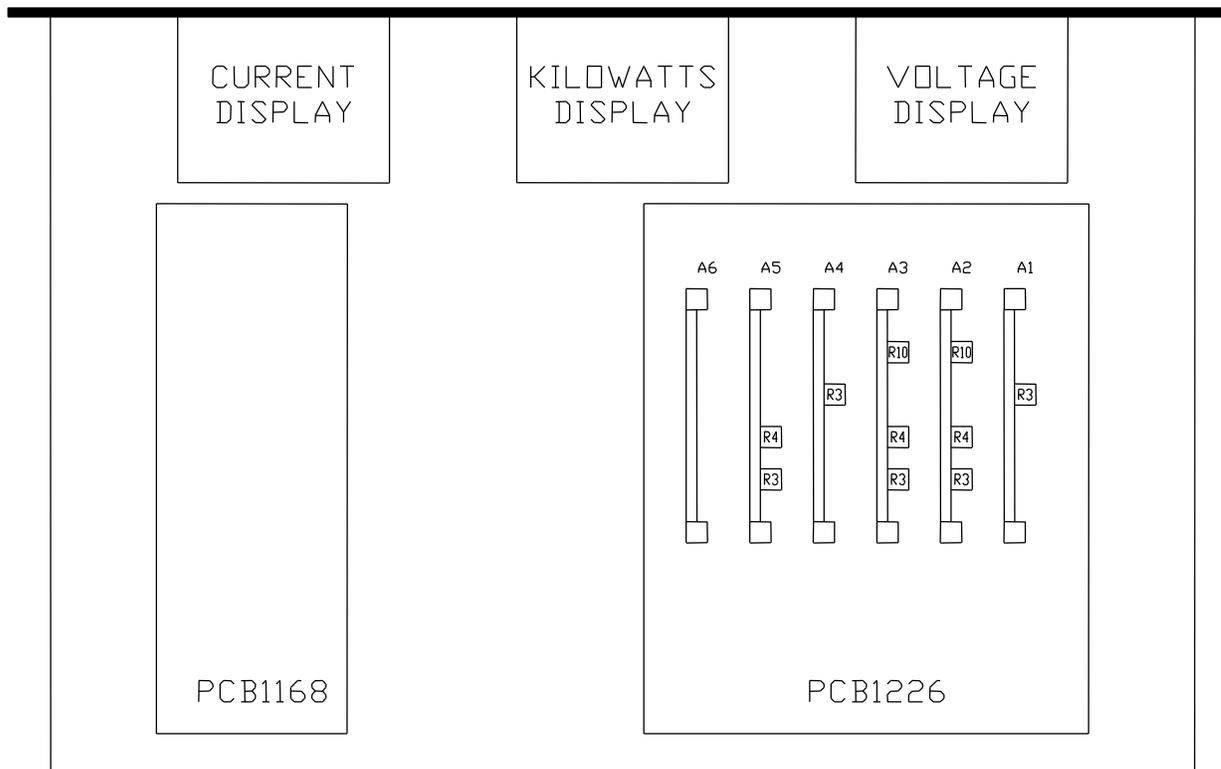

Figure 5-1. Location of Calibration Potentiometers
With the back panel removed from the Test Set, the calibration personnel will have direct access to the circuit cards located on the display panel assembly. The location of the calibration potentiometers located on the circuit card assemblies is shown in Figure 5-1. Table 5-1 lists the different functions of the calibration potentiometers.
5. Verify that the display panel Voltage (V) meter indicates a value of close to 0.000. If the value shown is not acceptable, adjust R3 on the A1 circuit card assembly to obtain an acceptable value. Refer to Figure 5-1.
6. Verify that the display panel Current (C) meter indicates a value of close to 0.000. If the value shown is not acceptable, adjust R3 on the A4 circuit card assembly to obtain an acceptable value.
The following paragraphs provide detailed procedures for calibrating the Test Set. The calibration process consists of separate procedures for the Voltmeter, Currentmeter, and the Kilowattmeter. Refer to Figure 5-1 and to Table 5-1 for the location of the calibration potentiometers and their function. It is recommended that these procedures be performed in the listed sequence.